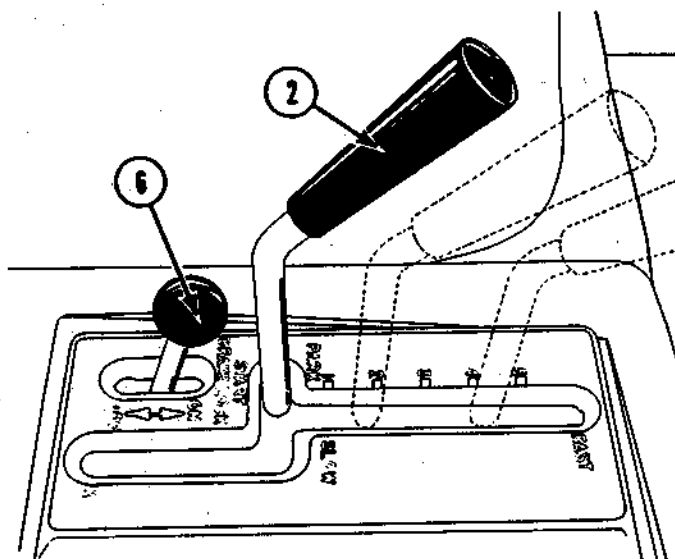
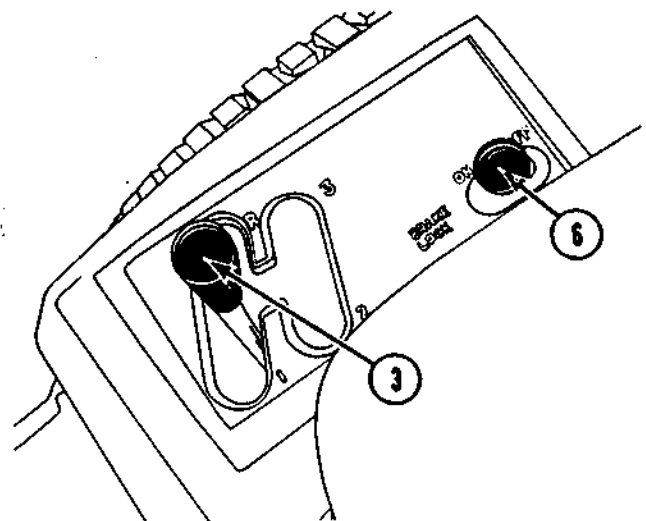

Figure 2
Figure 3
- ② **HYDROSTATIC CONTROL LEVER** (Hydrostatic Models – Figure 2)
- ③ **GEAR SHIFT LEVER** – (Gear Shift Models) – Figure 3.
**THE GEAR SHIFT LEVER MUST BE IN THE FORWARD NEUTRAL POSITION AS SHOWN IN FIGURE 3 TO START THE ENGINE.**
## 6 BRAKE LOCK – Figures 2 and 3
To lock the brake, push the brake lock forward with the foot pedal fully depressed. Then release the foot pedal. Figure 2 shows the brake lock engaged. Figure 3 shows it disengaged.
2. **HYDROSTATIC MODELS.** Place hydrostatic control lever (2) in the "park-start" position as shown in Figure 2.
3. **GEAR SHIFT MODELS.** Place gear shift lever (3) in the forward (neutral) position as shown in Figure 3.